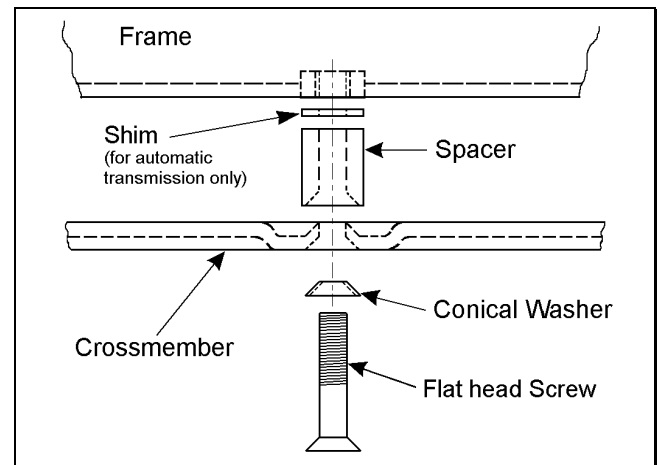

Figure 18
- 4) ☐ If flat head screws were removed, install a conical washer and apply thread lock to 3 flat head screws from kit 860161. Insert the screws through the crossmember, spacers, and into the frame. See figure 18.